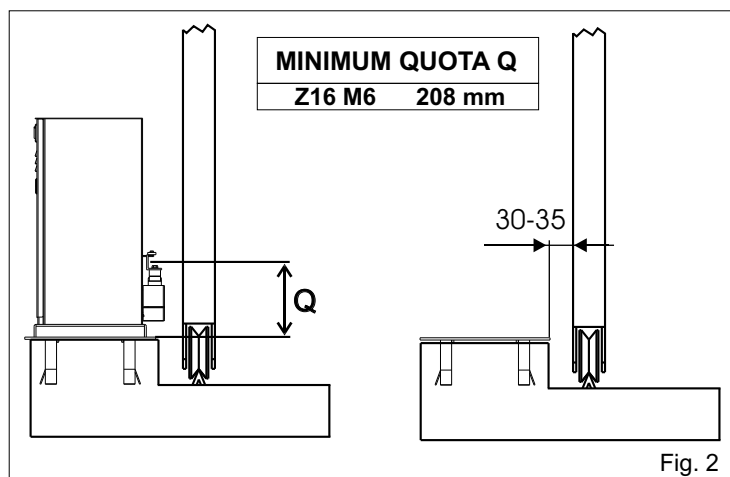
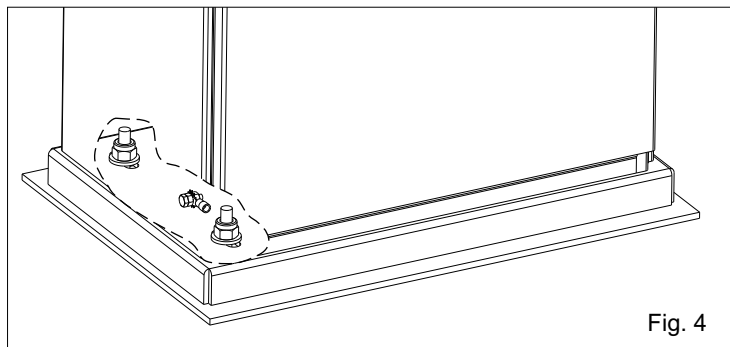

Fig. 2
Fig. 4
2.3. When concreting in the plate check that the plate is perfectly levelled and that the measurement of 30 - 35 mm given in Fig. 2 is followed.
4.1. Fix the motor-reducer to the foundation plate adjusting the side position (Fig. 4) considering the mentioned measurements in Fig. 2.